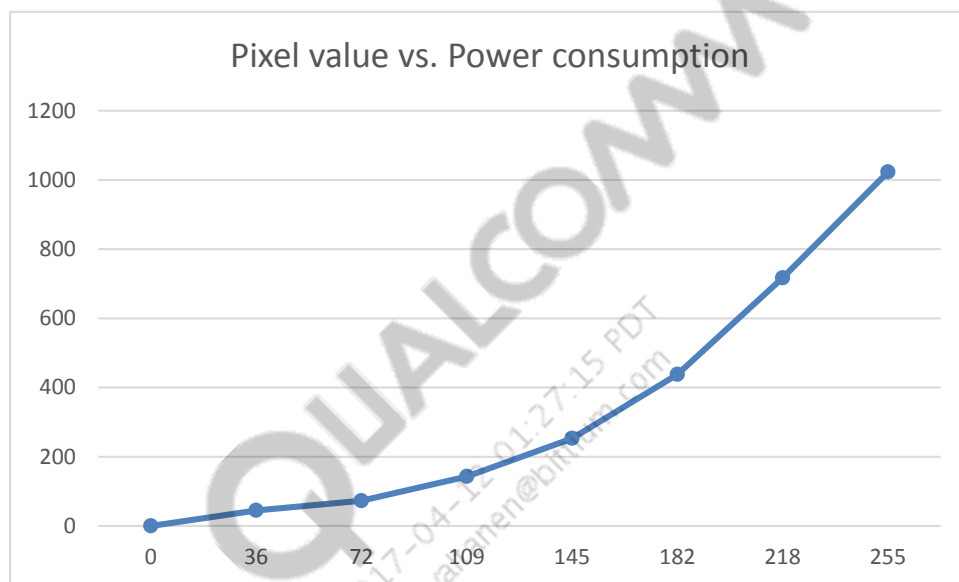

Figure 3-1 Sample panel power profile
5. Slice the curve to make pixel value and power consumption pairs. In Figure 3-1, eight points have been identified and made members of the profile table input and output entries.
Figure 3-1 shows the sample panel power profile defined in Table 3-2.